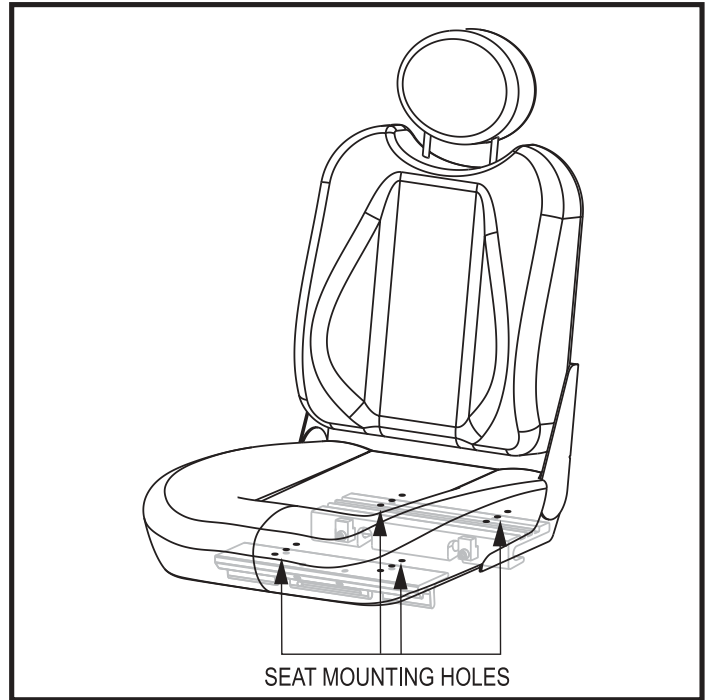

Figure 14. Seat Position Adjustment
5. Reposition the extrusions on a different set of mounting holes. You must move both extrusions the same number of holes either forward or backwards. See figure 14.